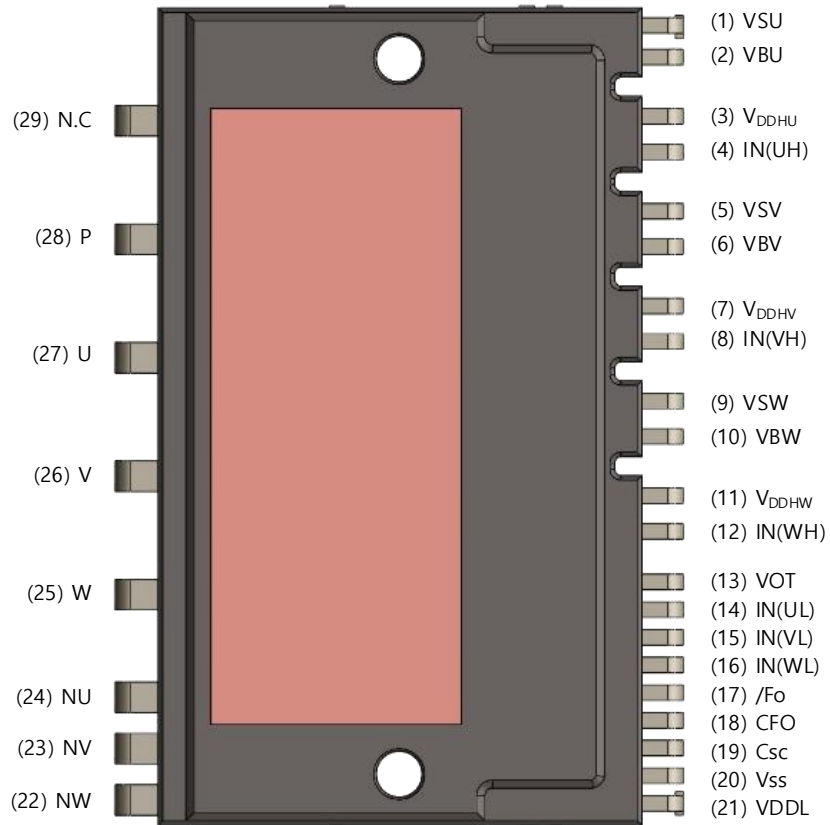

Figure 2. Pin Configuration – Top View
2. For the measurement point of case temperature ( $T_c$ ), please refer to Figure 2.